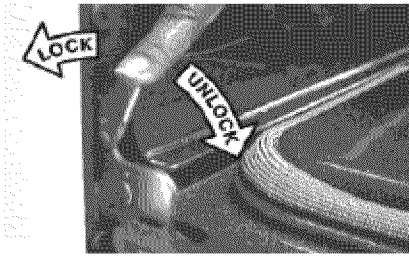

Figure 2
from the oven - Figure 2
3. Grab the door by the sides and pull the bottom of the door up and toward you to disengage the hinge supports. Keep pulling the bottom of the door toward you while rotating the top of the door toward the range to completely disengage the hinge levers (Figure 2).
2. Pull the door hinge locks on both left and right door hinges down from the oven frame completely towards the oven door (See Fig. 2). A tool such as a small flat-blade screwdriver may be required.
4. Push the door hinge locks up towards and into the oven frame on both left and right oven door hinges (See Fig. 2) to the locked position.